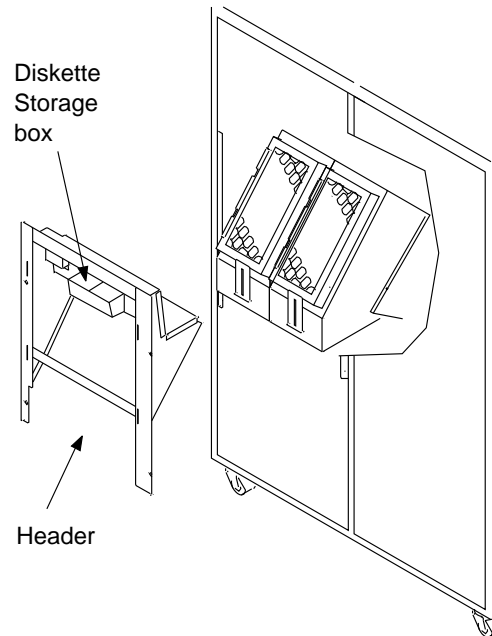

Figure 8-11. Disks and Disquettes Storage Box Installed in a 3745 21A or 41A
- b) \_\_\_\_ If you are installing a **3745 model 21A or 41A** stick the box on the cover located in front of the SACU board (see Figure 8-11).